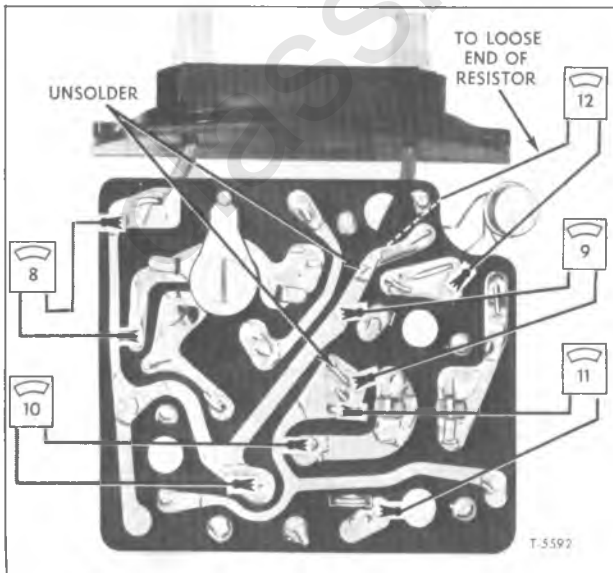

Figure 24—Checking Regulator Circuits
7. To check component parts of the panel board, it is necessary to carefully unsolder the specific connections at points shown in figure 24.
(PART 8, Fig. 24)
(PART 9, Fig. 24)
(PART 10, Fig. 24)
(PART 11, Fig. 24)
(PART 12, Fig. 24)